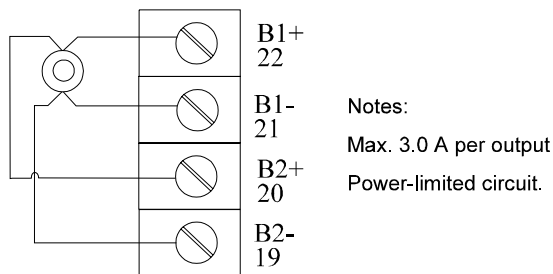

Figure 3-10. Class A Notification Appliance Wiring
1. Wire as shown in Figure 3-10.